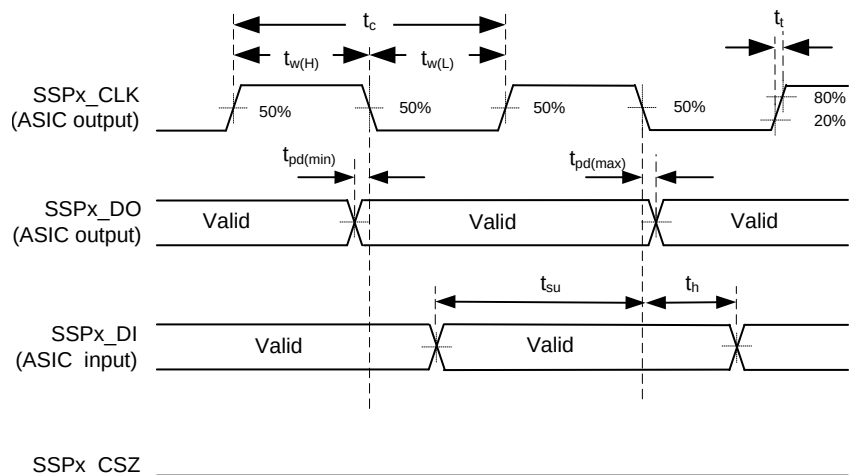
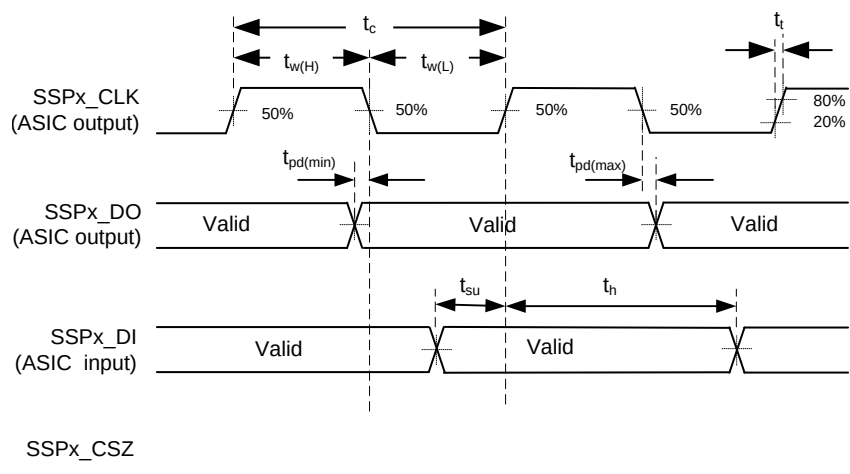

Figure 8. Synchronous Serial Port Interface – Master (Modes 0/3)
Figure 9. Synchronous Serial Port Interface – Slave (Modes 0/3)
(1) The SSP is configured into four different modes of operation by the controller firmware. These modes are shown in Table 2, Figure 8, and Figure 9.
(2) Modes 0 and 3
(3) Modes 1 and 2